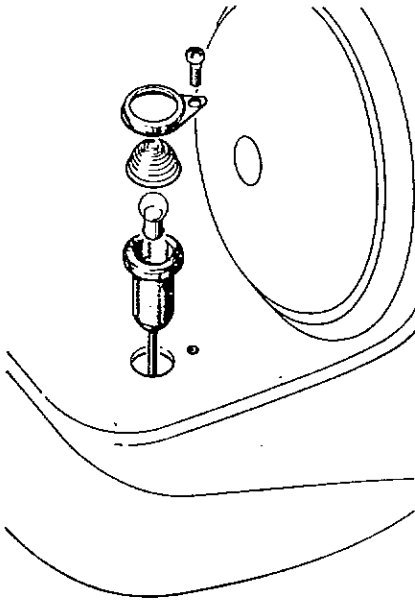

Fig. 53. Side Lamp Bulb Replacement
1. Remove the securing screw from sidelamp rim (fig. 53).